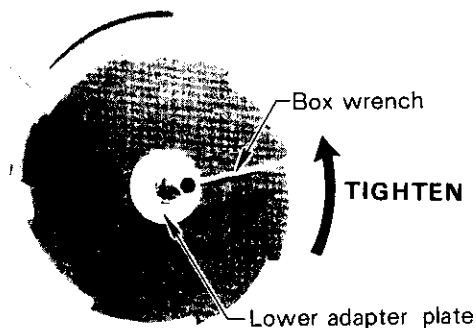

Fig. 14
5. Fit the lower adapter plate and tighten the locking nut using the box wrench supplied in the tool kit. See Fig. 14